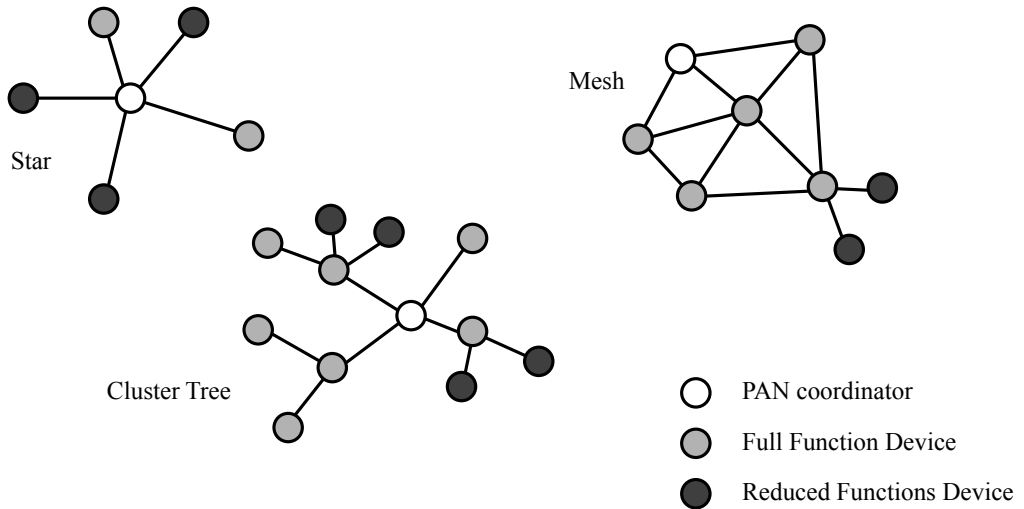

Figure 4.1
- ❑ ZigBee™ coordinators can create three different kind of networks; Star, Cluster Tree or Mesh networks (figure 4.1):
- ❑ A beacon frame is originated by the PAN coordinator and is used to synchronize all nodes in the network. A command frame is used by frames to help create the networks shown in Figure 4.1, and will not be covered in this tutorial. Data and ACK frames will be covered extensively in the next few chapters.